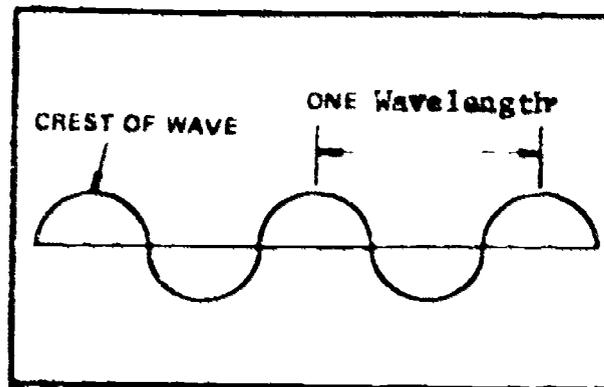

Figure 4-1. Parts of a Wavelength
WAVE LENGTH AND FREQUENCY. Different forms of radiant energy are distinguished from each other in two ways. They differ in (1) wavelength and (2) frequency. Wavelength is the distance from the crest of one wave to the crest of the next. Frequency is the number of waves that pass a given point in one second. The product of wavelength and frequency is called velocity or the speed of light. Figure 4-1 illustrates the parts of a wavelength.